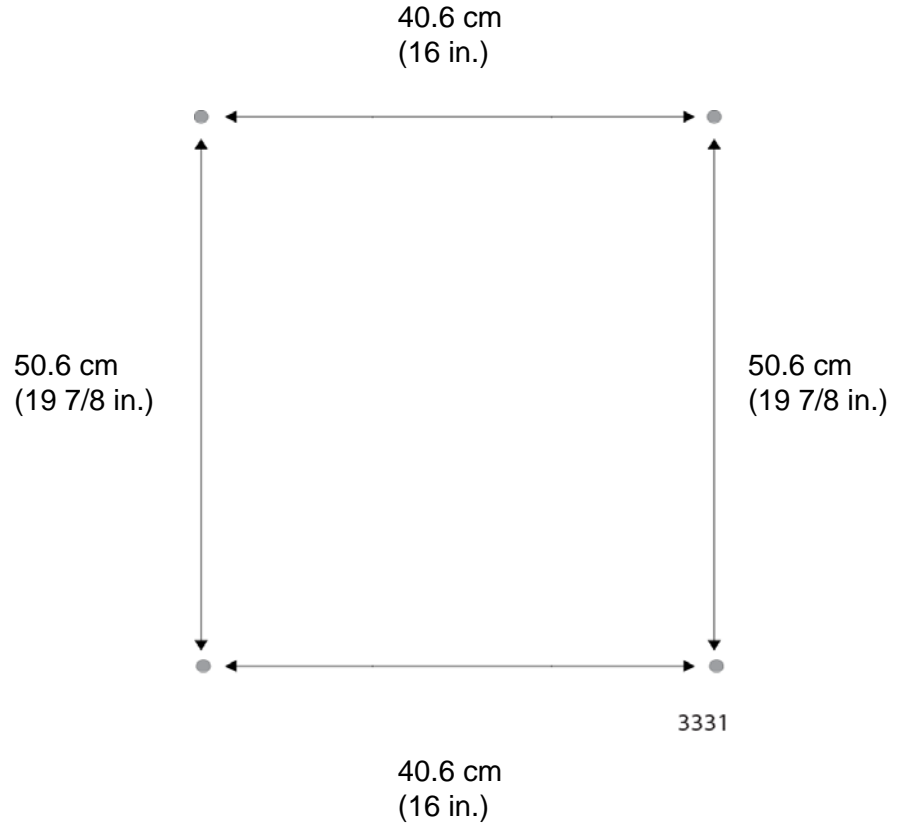

Figure 11. Screw Hole Measurements
4. Double-check the measurements of the marks on the wall for the screw holes to be sure they are correct. Refer to Figure 11 on page 29.